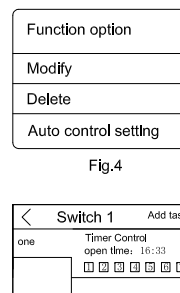
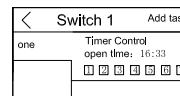

Fig.4
Fig.5
- a.Press and hold the switch ID to access a pop-up box as shown in Fig.4.Set up auto control setting, and check the pre-set automatic control conditions as shown in Fig. 5.